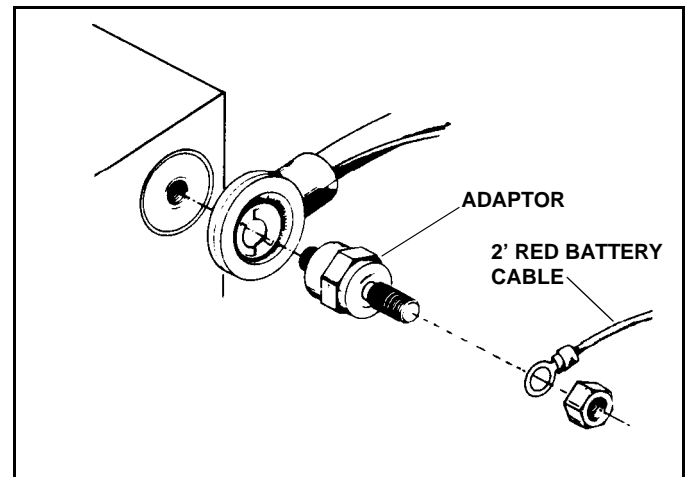

Figure 1-5
NOTE: If the vehicle has a "side post" battery, it is recommended that adaptors be purchased to make connections at the vehicle battery easier. (See Figure 1-5) Adaptors can be purchased locally or are available from your Sno-Way Dealer, Part #96100773.
20. Attach the other 2' long Red battery cable to the battery terminal of the circuit breaker and to the POS. (+) battery terminal.(See Figure 1-5)